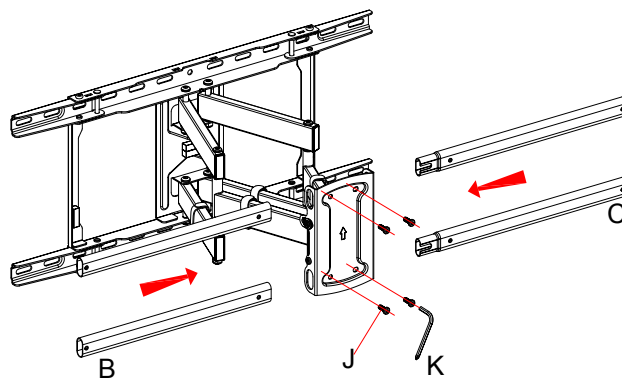

Figure 4
Step 3: Assemble extension arms (B,C) as picture shows, align the extension arm holes with the wall plate unit, then fasten them with screws (J) using allen key (K).(Figure 4)